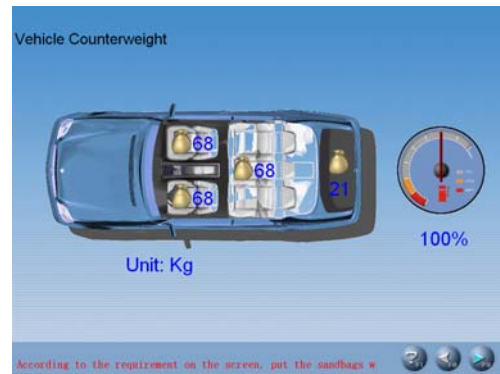

Fig.4.8
- When some special vehicle models (such as BMW 3 series) are selected, the screen will pop up an interface of [Vehicle Counterweight] as shown in Fig.4.8.